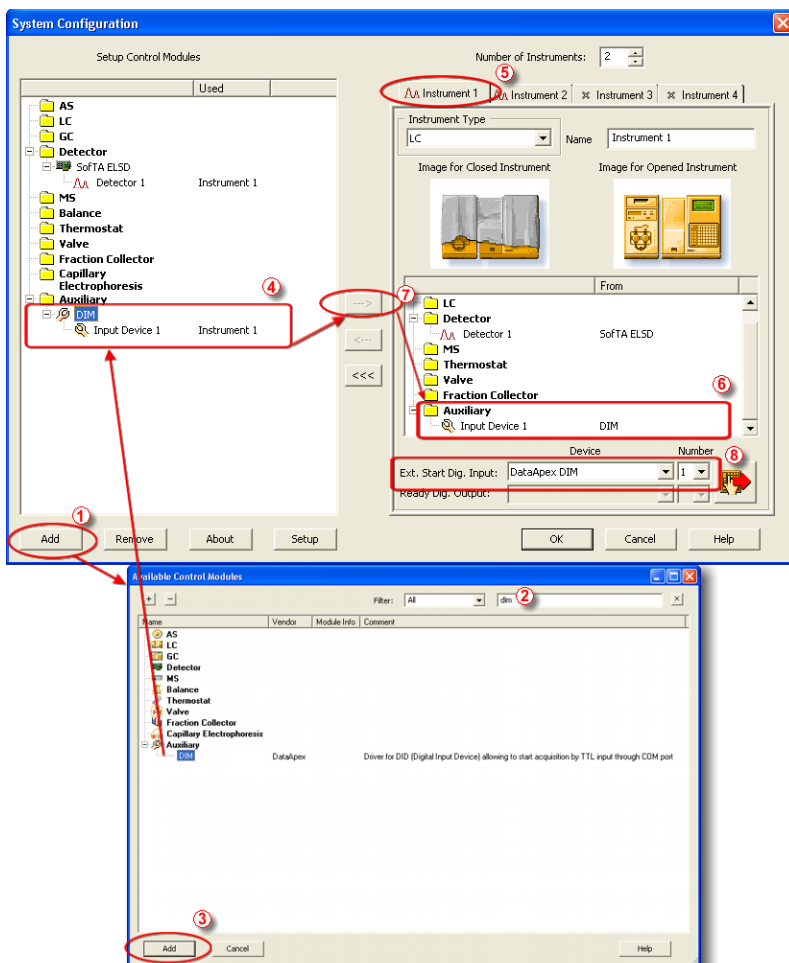

Fig 3: System Configuration
- Press the *Add* button ① (See **Fig 3** on pg 3.) to invoke the **Available Control Modules** dialog.
- You can specify the searching filter ② to simplify the finding of the driver.
- Select the **DIM** item in the *Auxiliary* section and press the *Add* ③ button.